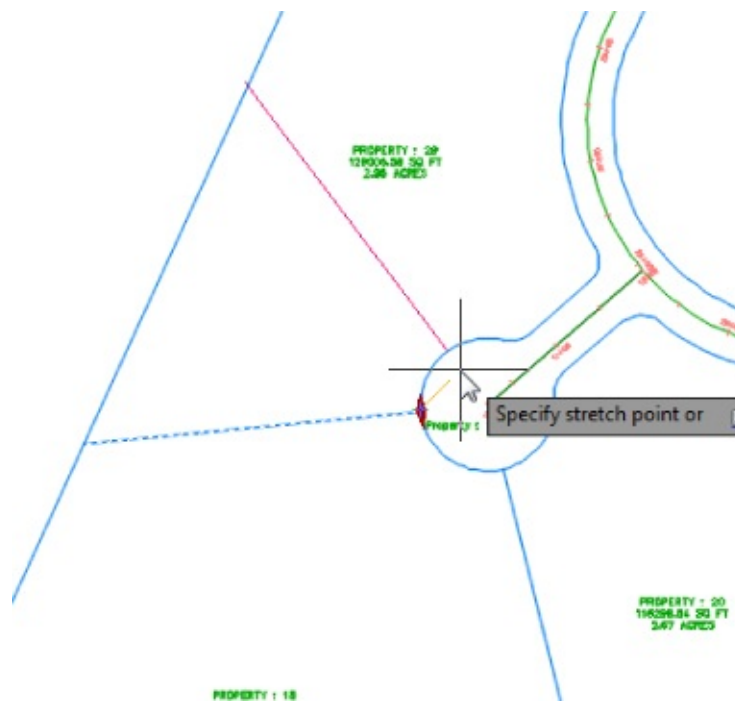

Figure 5.38 Sliding an attached parcel segment
4. Grab the grip, and slide the segment along the ROW parcel segment (see Figure 5.38).